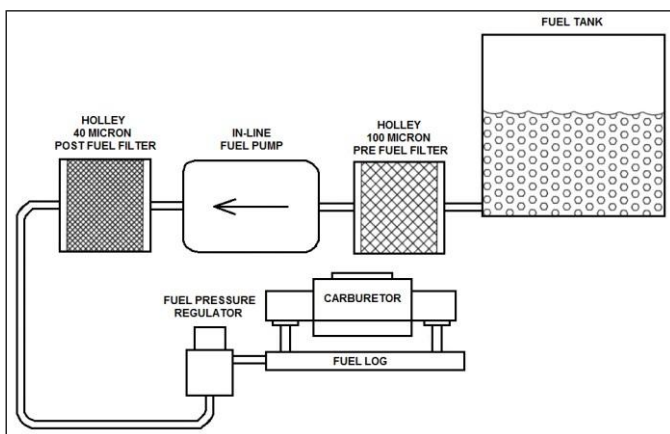

Figure 1
- The standard regulator has two discharge (out) ports (**Figure 1**). In dual carburetor installations, one port can feed each carburetor. With single carbs, plug one port and feed the carburetor from the other. Either may be used. Installations should determine choice. See **Figure 1**.